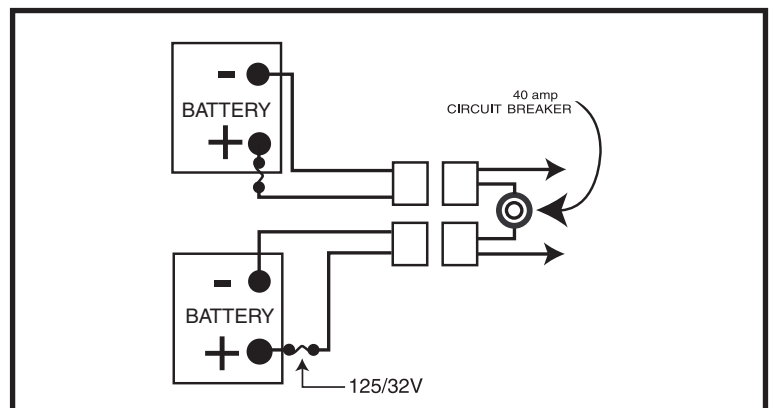

Figure 13. Battery Cable Orientation
7. Connect the red battery cable to the positive (+) battery terminal. **See figure 13.**